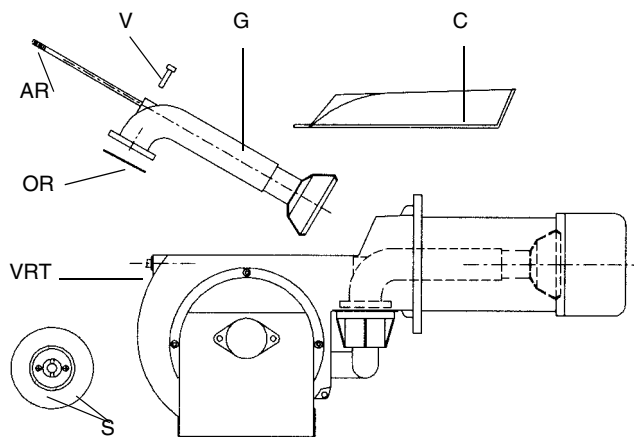

Fig. 31
- Remove, check and clean the combustion head (see Fig. 31)